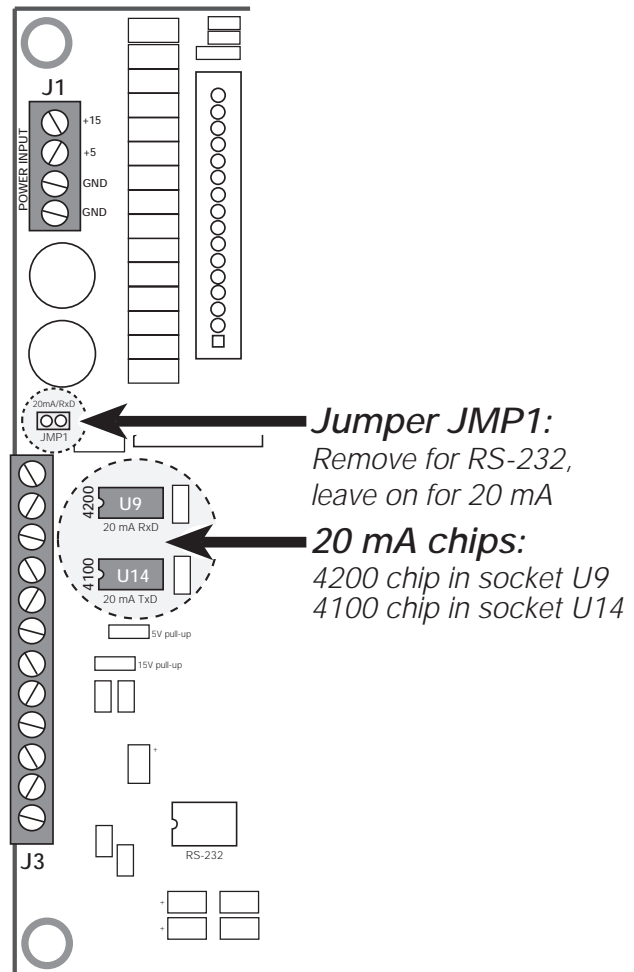

Figure 2-1. Locations of Jumper JMP1 and 20 mA Chips on Left Edge of CPU Board
6. For RS-232 connections, remove jumper JMP1 on the CPU board (see Figure 2-1).